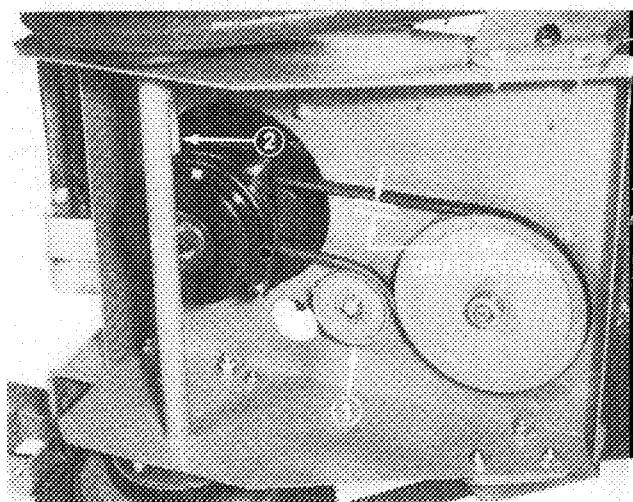

Figure 1
10. Loosen capscrew and flange nut securing idler pulley to frame (Fig. 1). Slide pulley outward relieving tension on traction belt.
11. Remove left front engine mounting bolt securing clutch retainer to frame (Fig. 1). Unhook retainer from clutch and remove retainer.
12. Make sure in-line clutch connector is disconnected and remove traction belt from clutch. (Fig. 1). Remove grommet in frame hole allowing clutch connector to pass thru when removing clutch.
21. Position and secure idler pulley to frame so belt deflection is not more than 11/64" when 5 1/2 lbs. of force is applied to midspan of long leg of belt (Fig. 1).
23. Align control panel with (2) existing holes in left side of upper handle. Using control panel as a template, mark and drill (2) 7/32" dia. holes thru right side of upper handle (if applicable).